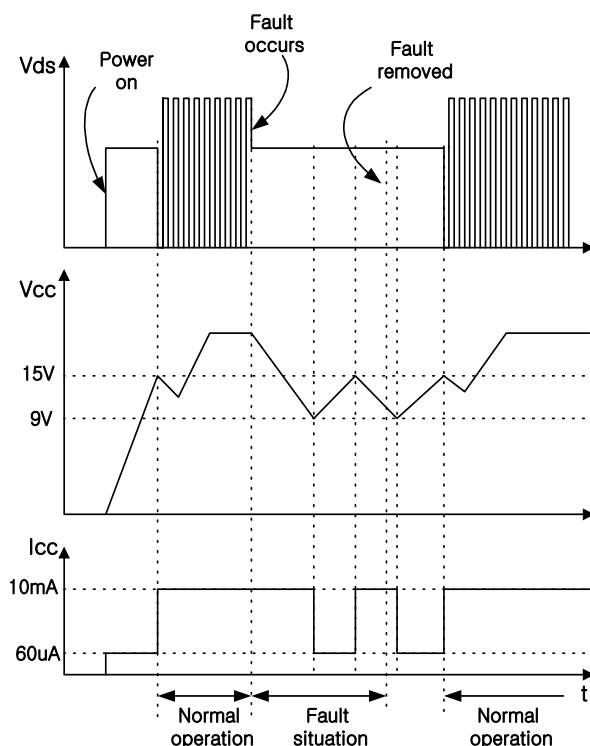

Figure 3. Auto restart operation after protection
3. Protection Circuit : Besides pulse-by-pulse current limit, the FS6X1220R has 3 self protection functions; over load protection (OLP), over voltage protection (OVP) and thermal shutdown (TSD). Because these protection circuits are fully integrated into the IC without external components, the reliability can be improved. In the event of these fault conditions, FS6X1220R enters into auto-restart operation. Once the fault condition occurs, switching operation is terminated and MOSFET remains off, which causes V_{cc} to be reduced. When V_{cc} reaches 9V, the protection is reset and the supply current reduces to 60 μ A. Then, V_{cc} begins to increase with the current provided through the start-up resistor. When V_{cc} reaches 15V, FS6X1220R resumes its normal operation if the fault condition is removed. In this manner, the auto-restart alternately enables and disables the switching of the power MOSFET until the fault condition is eliminated as illustrated in figure 3.